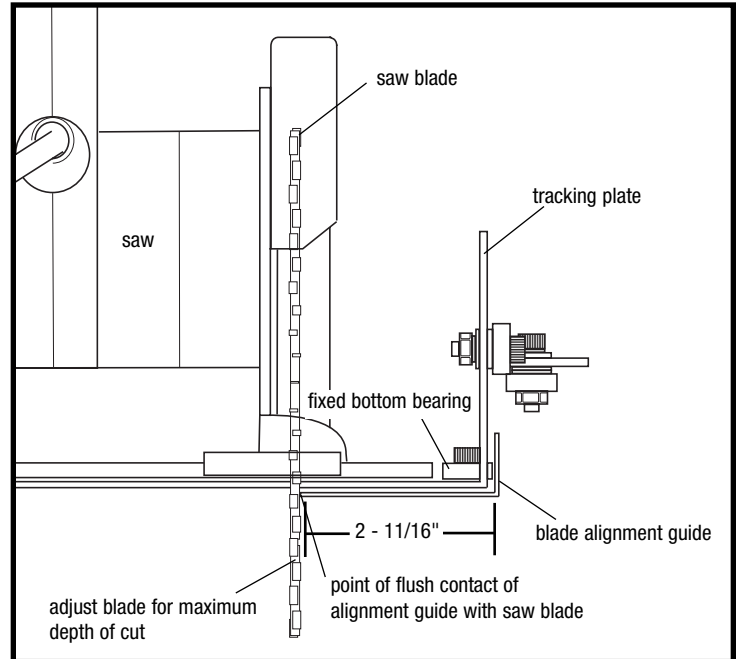

fig. 4 - Aligning the Blade
**Blade Alignment** (see fig. 4)
- After changing blades, make sure the cutting guide aligns with the edge of the blade (fig. 4).